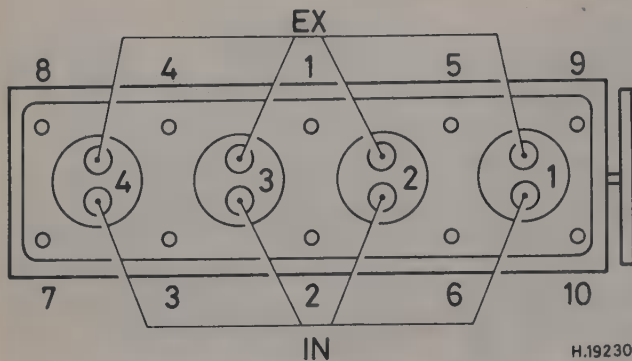

Fig. 1.24 Cylinder head valve positions and bolt tightening sequence (Sec 25)
- 17 Progressively unscrew the cylinder head bolts, using a reversal of the tightening sequence shown in Fig. 1.24.
- oil, then screw them into position. Tighten them progressively in the sequence shown in Fig. 1.24. Tighten all bolts to the Stage 1 torque specified, then in sequence, loosen each bolt a quarter-turn, and tighten to the specified Stage 2 torque (photo).